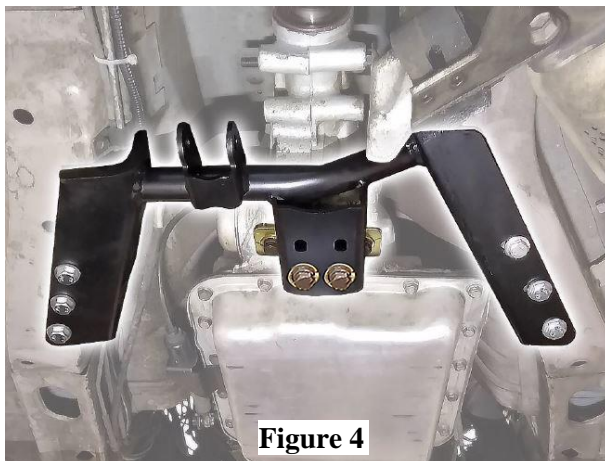

Figure 4
5. Torque the six crossmember mounting bolts to 38 lb. ft. and the two crossmember to Energy Suspension mount to 49 lb. ft. **(Figure 4)**